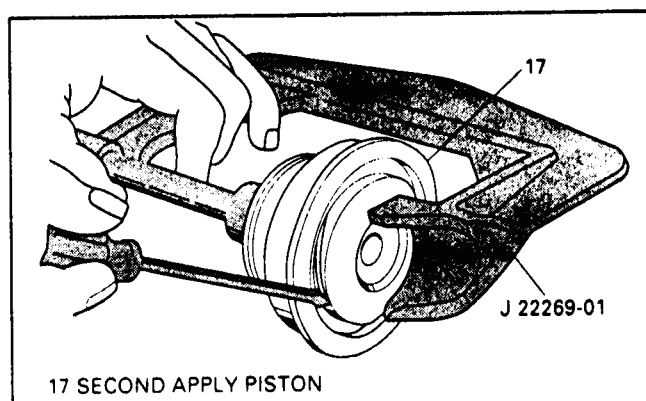

Figure 171
3. Use tool J-22269-01, as shown in Figure 171, to compress the cushion spring, if necessary.